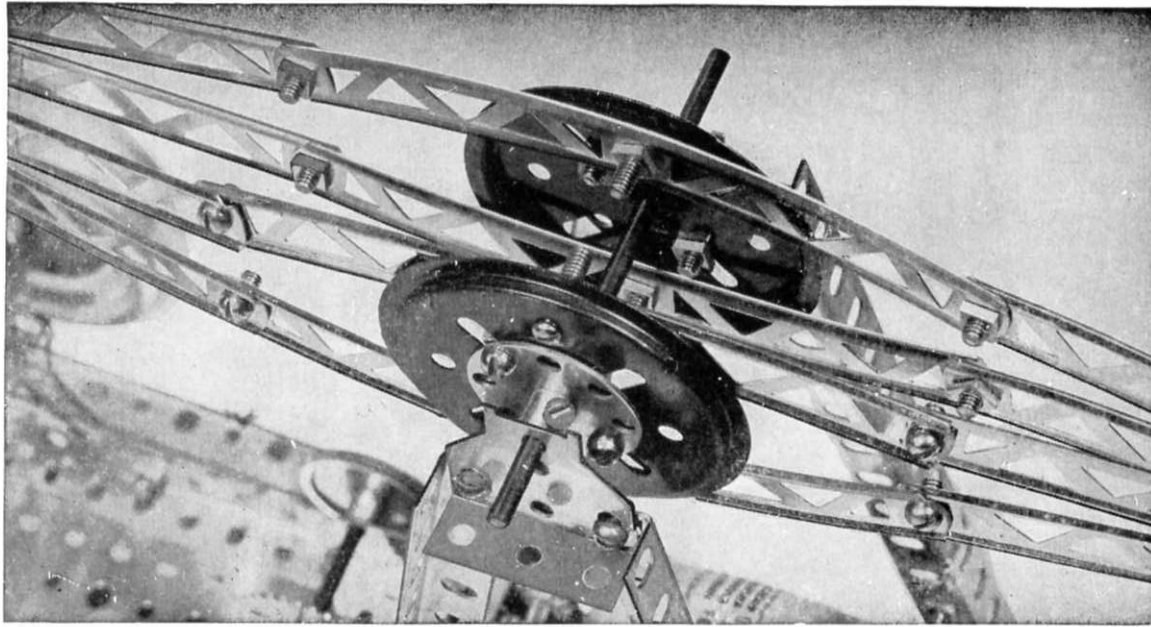

FIGURE 3
In Figure 1, you will see 2 (DP) 12" angle girders fastened along the top base plates. On these angle girders is mounted the inverted "V" frame which supports the beam. This inverted "V" is built with (MO) 3" angle girders on the bottom and (BE) 6" angle girders mounted on top of the 3" angle girders as shown in Figure 4. A P79 car truck is used to tie the "V" together as shown in Figure 3.
In Figure 1, you will see the entire Walking Beam and in Figure 3 is shown a detail of the beam. To the (BN) turret plates are fastened (BT) pierced discs which are used to hold the unit on the (AT) 4" axles which also passes through the P79 car trucks. On each turret plate is fastened 2 (E) 5" curved girders. To these curved girders are fastened (B) 5" girders. The four 5" girders are brought together at each end. On the boiler end is fastened an (H) 11 hole strip which is free to move. On the other end of the beam is fastened an (I) 21 hole strip which is also free to move. The beam should now be mounted on the inverted "V" and the end of the 21 hole strip attached to the flywheel unit. Special care should be taken at this point to check to see that everything is free by turning the